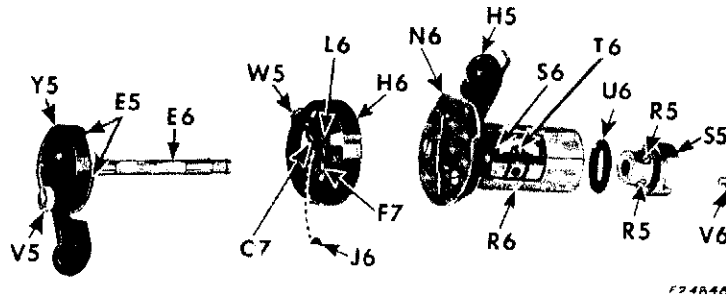
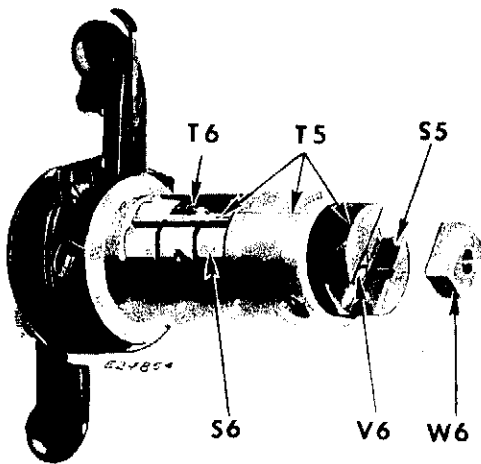
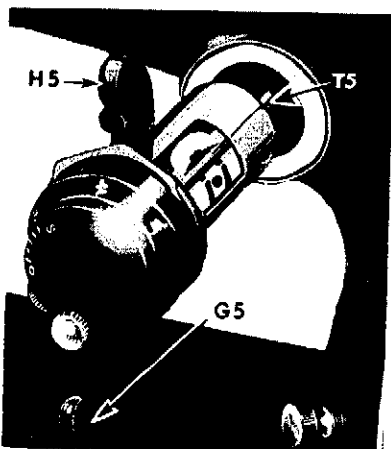

Fig. 141. Completing Assembly of Bight Control Mechanism
Fig. 143. Aligning Eccentric and Slide with Bearing Sleeve
Fig. 144. Installing Bight Control Mechanism
COMPLETING ASSEMBLY See Figs. 141 and 142
22. Set bight lever **G5**, Fig. 144 at "O" position. Loosen bight limit screw **V5**, Fig. 141 to release stop-shoe. Slide the stop-shoe until it closes the recess **E5** while maintaining lever **G5** at "O" position. Lock bight at "O" by retightening stop screw **E5**.
23. Set position lever **H5**, Fig. 144 at central position. Align timing mark on slide with timing marks on eccentric and sleeve as shown at **T5**, Figs. 143 and 144. Then set bight lever in
NOTE: The two bearing surfaces of the slide **S5** and slide block **W6**, Fig. 143 can be easily detected by their brightness and smoothness in comparison with non-bearing surfaces.
Set both control levers **G5** and **H5** at neutral position, as shown in Fig. 144, and slide entire assembly into arm.